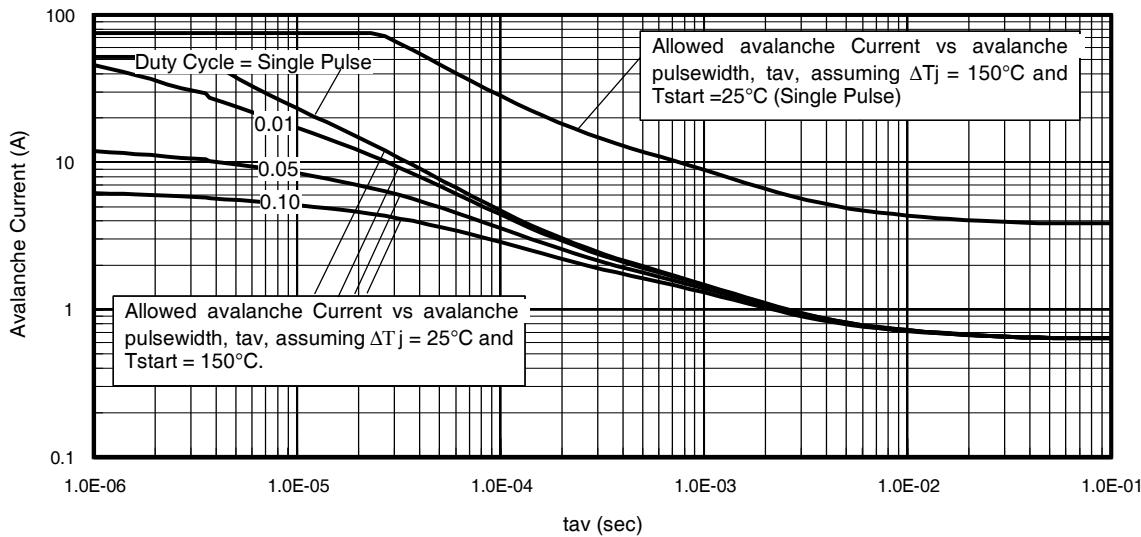

Fig 14. Typical Avalanche Current vs.Pulsewidth
#### Notes on Repetitive Avalanche Curves , Figures 14, 15:
7.  $\Delta T$  = Allowable rise in junction temperature, not to exceed  $T_{jmax}$  (assumed as  $25^\circ\text{C}$  in Figure 14).